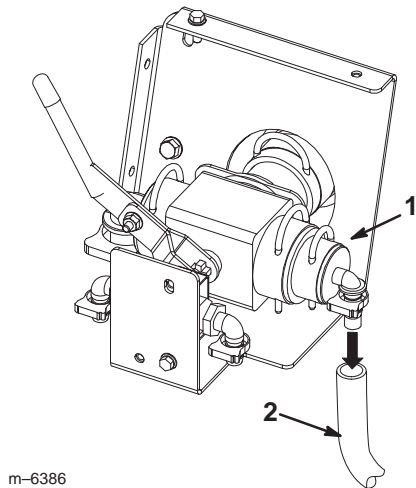

Figure 17
19. Connect a 1/2 inch hose to the open fitting on the control valve assembly (Fig. 17).